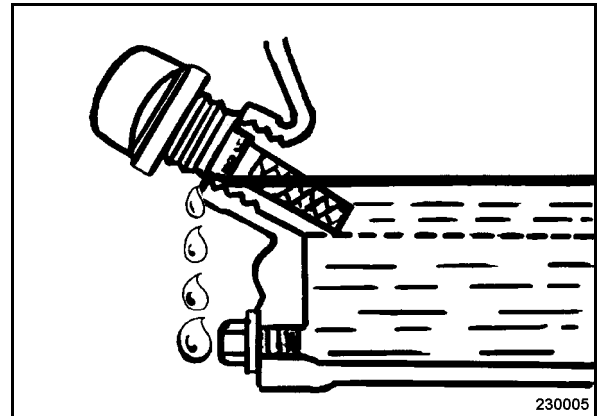

Fig. 39
- Position the engine horizontally and unscrew the oil dipstick (Fig. 39).